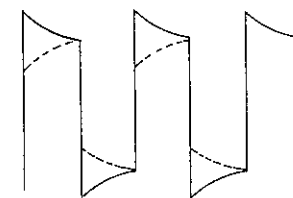
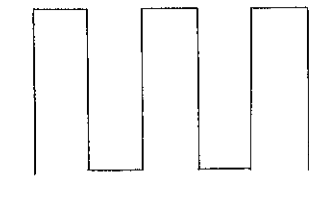

Fig. 6 DISTORED
Fig. 7 GOOD
- 5) If the square wave is distorted as Fig. 6, adjust the trimmer of the probe till it becomes a good square wave as Fig. 7